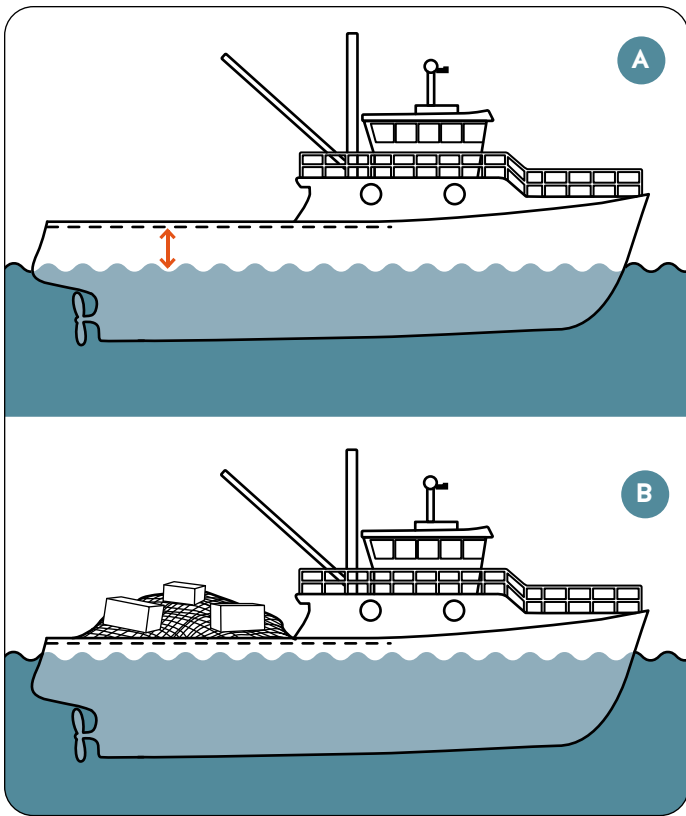

Figure 2. A vessel with adequate freeboard (A) and a vessel with reduced freeboard (B). Reduced freeboard increases the risk of capsizing.
- **Reduced freeboard** — *Freeboard* is the distance between the waterline and the vessel's working deck. Adequate freeboard is crucial for stability. Reduced freeboard can occur due to the loading of fish, extra gear on board, and vessel modifications. (See Figure 2.)
Figure 1 was adapted from TP 15393E — Adequate Stability and Safety Guidelines for Fishing Vessels, produced by Transport Canada. Figures 2 and 3 were adapted from TP 10038 E \(2003\) — Small Fishing Vessel Safety Manual, produced by Transport Canada. These adaptations were not produced in affiliation with, or with the endorsement of, Transport Canada.